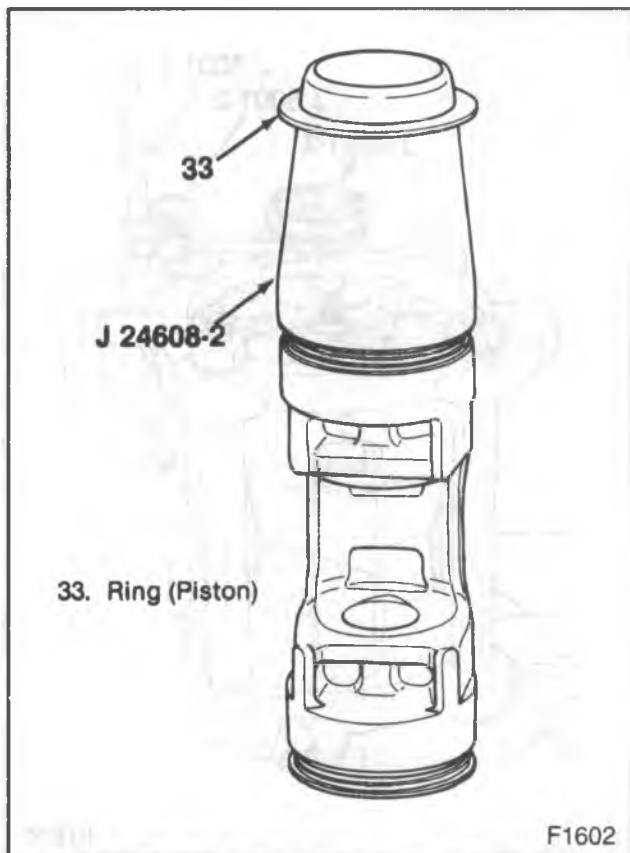
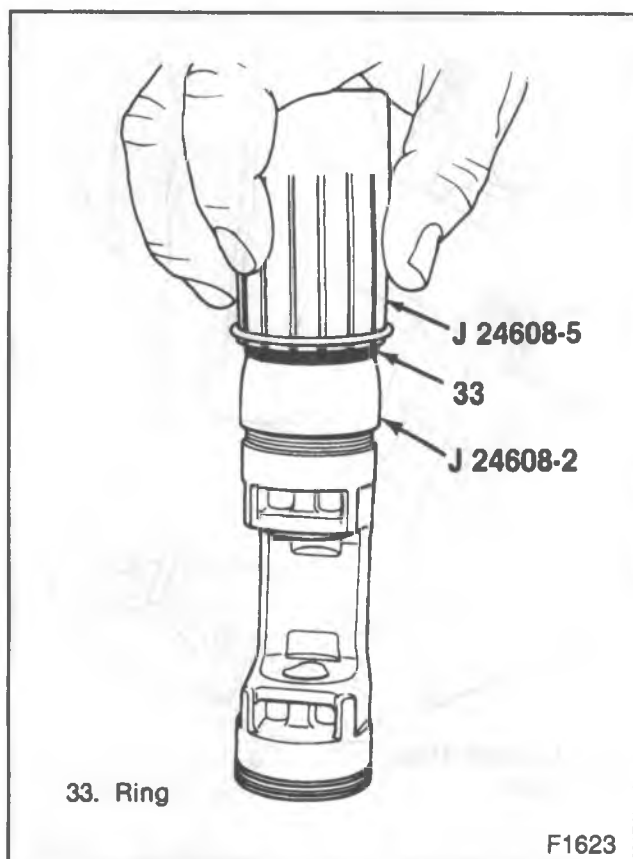
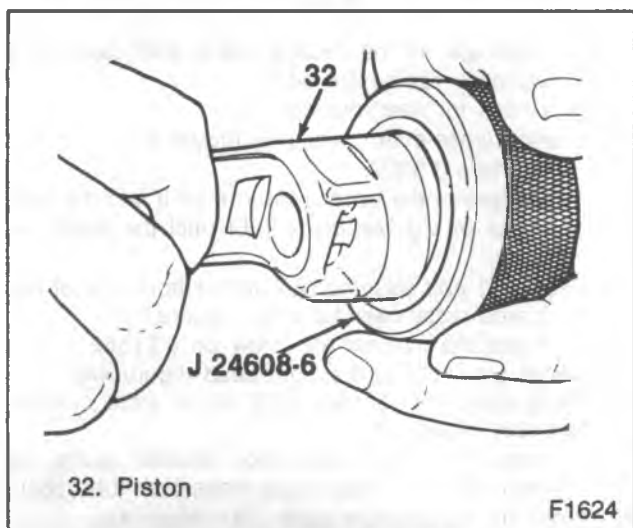

Figure 36—Piston Ring Position and Installer Guide
Figure 37—Installing the Piston Ring
Figure 38—Sizing the Piston Ring
1. Piston (32) to J 24608-2 (figure 36).
2. Piston ring (33) to J 24608-2.
3. Piston ring (33) to piston (32) (figure 37).
- J 24608-5 (installer) will keep the J 24608-2 (guide) inside when the piston ring is installed on the piston (32).
- Remove the guide from the installer and do not store the guide in the installer because the seal will be stretched and weakened during storage. This can cause the seal not to hold the ring installer segments tight enough to the J 24608-2 (guide) when installing the piston ring (33) to the piston (32).
4. Piston (32) to J 24608-6 (figure 38).
- Lubricate the piston ring (33) area with 525 viscosity refrigerant oil.
- Rotate the piston (32) and ring (33) into J 24608-6 at a slight angle until the piston is inserted against the center stop of J 23608-6.